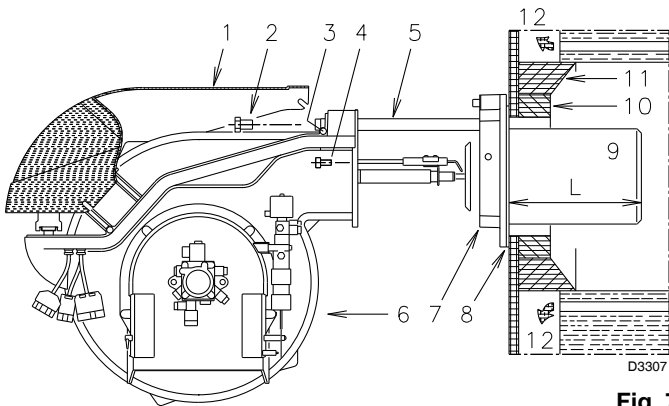

Fig. 7
5.4 Blast tube length (Fig. 7)
For boilers having a water-cooled front the refractory fettling 10)-11)(Fig. 7) is not required unless it is expressly requested by the boiler manufacturer.
Once this operation has been carried out (if it was required), secure flange 7) (Fig. 7) to the boiler plate interposing the supplied gasket 8). Use the 4 screws provided after having protected the thread with anti-seize products (high-temperature grease, compounds, graphite).
- Retract the burner on its slide bars as shown in (Fig. 7 page 12).